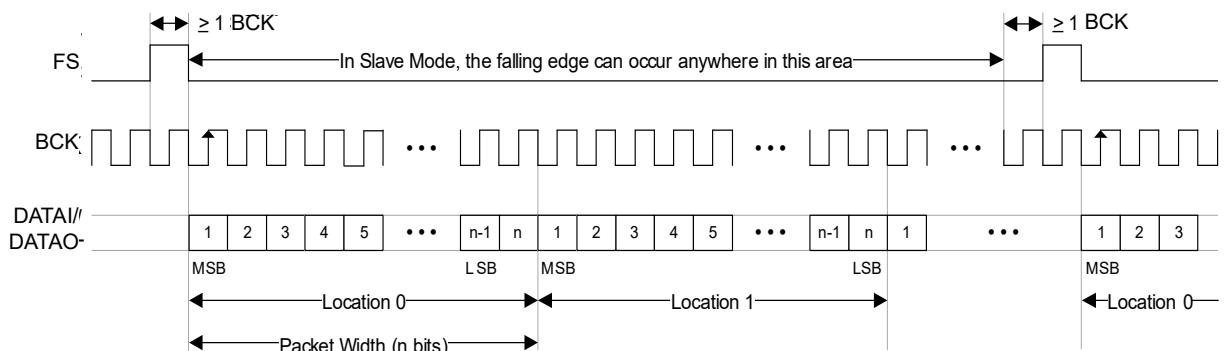
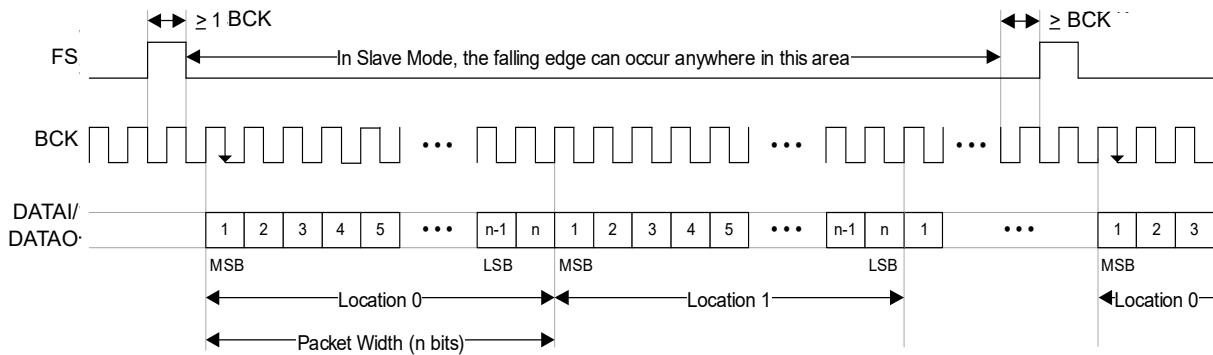

Figure 4-23. TDM 1 Mode Formatting
Figure 4-24. TDM 1.5 Mode Formatting
The start of the TDM frame is the first rising edge of BCK after the rising edge of the frame synchronization (FS) pulse. When operating in TDM 1 Mode (ASP_FMT = 000), the MSB of the first packet for both DATAI and DATAO is valid 1 full BCK period after the start of the frame, as shown in Fig. 4-23. When operating in TDM 1.5 Mode (ASP_FMT = 100), the MSB of the first packet for both DATAI and DATAO is valid 1.5 BCK periods after the start of the frame, as shown in Fig. 4-24.
In TDM 1.5 Mode ($\text{ASP_FMT} = 100$), the TDM format with the MSB of DATAI and DATAO valid at 1.5 BCK periods relative to FS is shown in Fig. 4-24. If ASP_BCK_INV is cleared, the BCK must be inverted relative to Fig. 4-24 when operating in TDM 1.5 Mode operation.